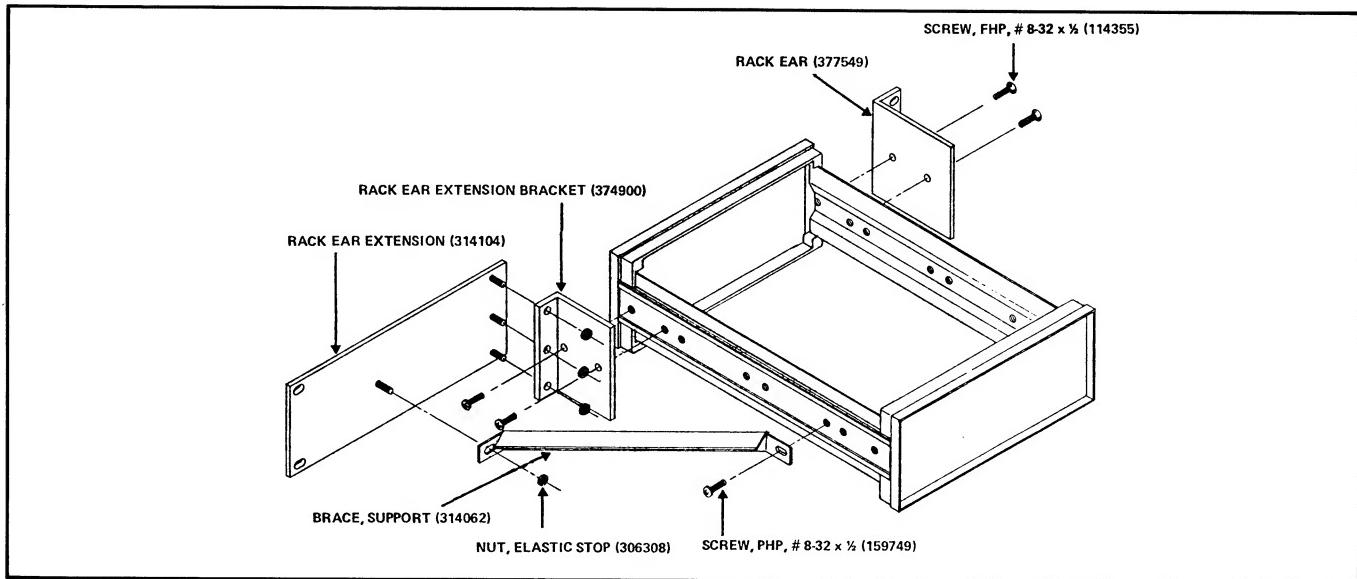

Figure 6-3. OFFSET RACK MOUNTING
d. Attach the rack ear extension bracket to the rack ear extension using three elastic stop nuts. (See Figure 6-3).
- g. Secure the brace support between the rack extension and side of the unit as shown in Figure 6-3.